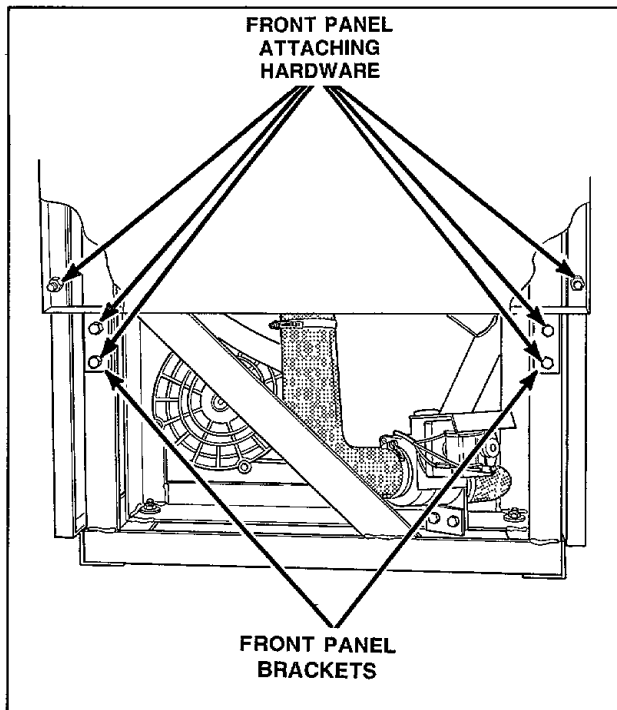

Figure 7
- g. Remove two screws, lockwashers and washers (one set per side) from inside the lower front corners holding the front panel to the side panels, *Figure 7*.
- h. Remove the screws, washers, lockwashers and nuts (two sets per side) holding the front panel brackets to the frame, *Figure 7*.
- i. Remove two screws, lockwashers and washers (one set per side) from inside the lower front corners holding the front panel to the side panels, *Figure 7*.
- j. Remove the screws, washers, lockwasher and nuts (two sets per side) holding the front panel brackets to the frame, *Figure 7*.